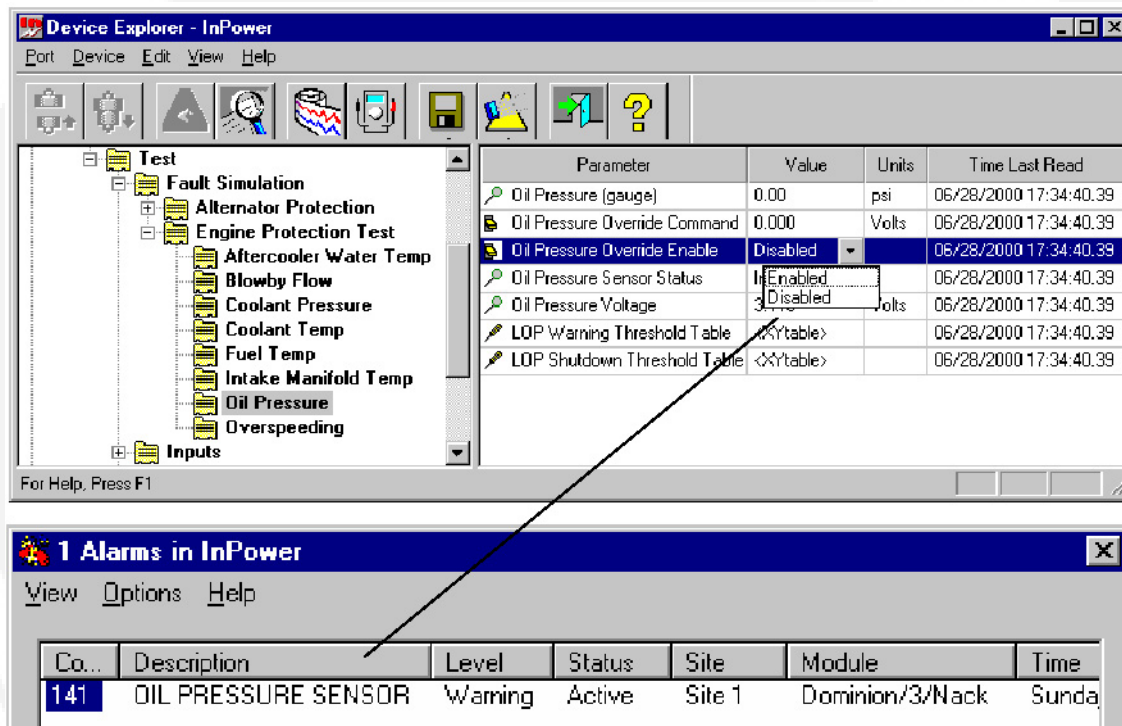

FIGURE 48. TEST - ENGINE PROTECTION -OIL PRESSURE TEST
**Example:** In this example, InPower is used to test an engine protection feature (Figure 48).
The Alarm popup will display the active warning (Figure 48).